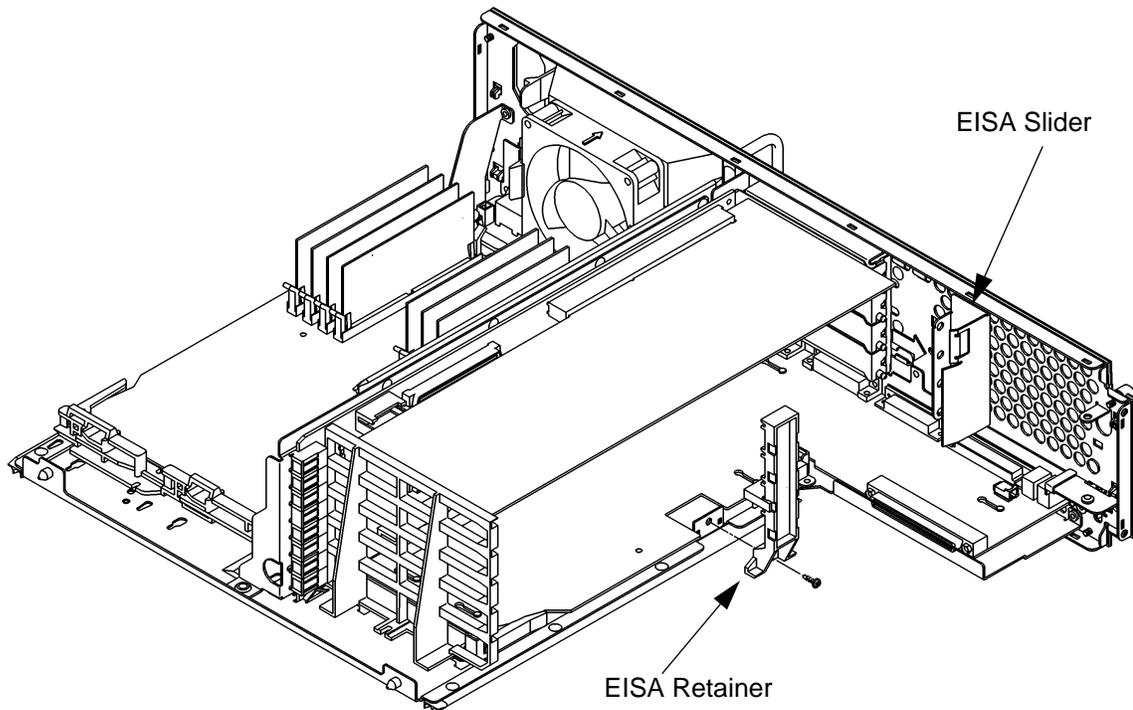

Figure 45 **Removing the EISA Slider and Retainer**
- 2 Slide the EISA slider to the side to remove it, as shown in Figure 45.
- 3 Remove the screw from the EISA retainer and remove it, as shown in Figure 45.